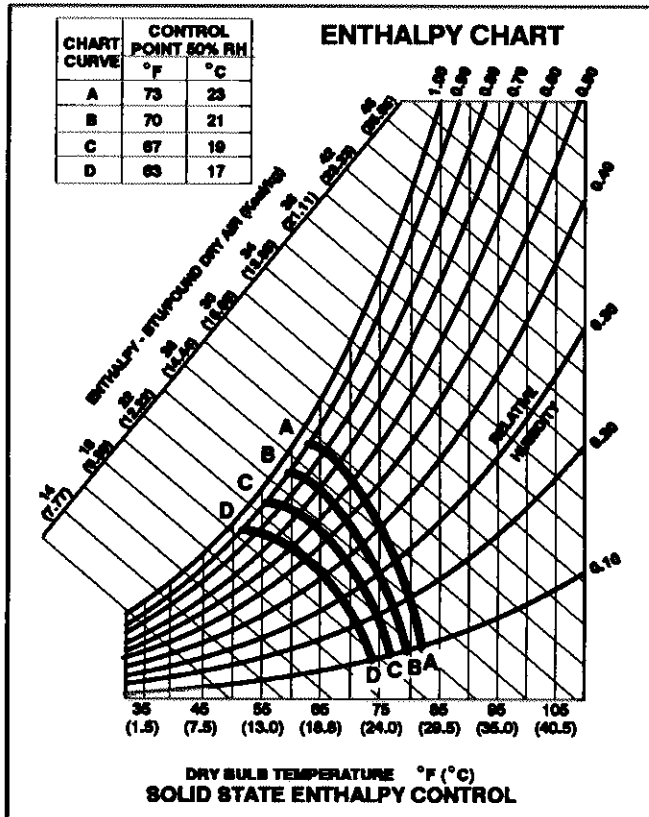

FIGURE 14
- 2- The enthalpy sensor is located in the outdoor air inlet of unit. This control prevents excessively moist outdoor air from entering the system by sensing the total heat content of the outdoor air. The LED on the enthalpy control is lit during "low" enthalpy conditions. The recommended setpoint is A shown in figure 14. If the economizer is allowing air which is too moist or too humid to enter the system, the control may be changed to a lower setpoint. See figure 14.